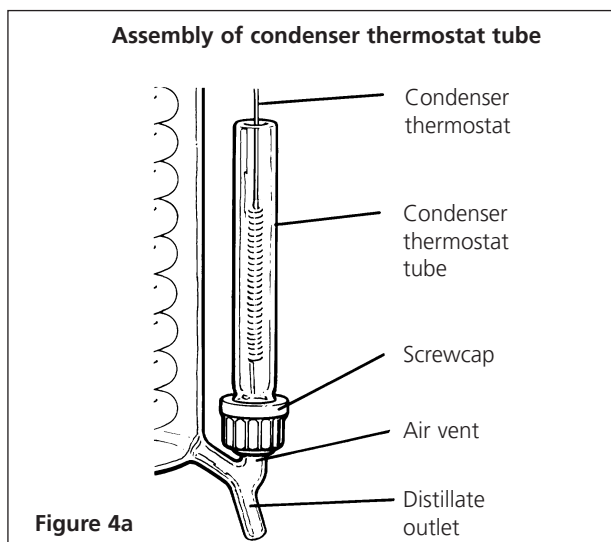

Figure 4a
- Assemble the condenser thermostat tube A515414 connecting cap QC18/11, silicone rubber ring QR18/7 as shown in **figure 4a**. If the cap is left loose the assembly may now be carefully slid over the air vent on the distillate outlet - see **figure 4a**. Tighten up the cap once the tube is in place.